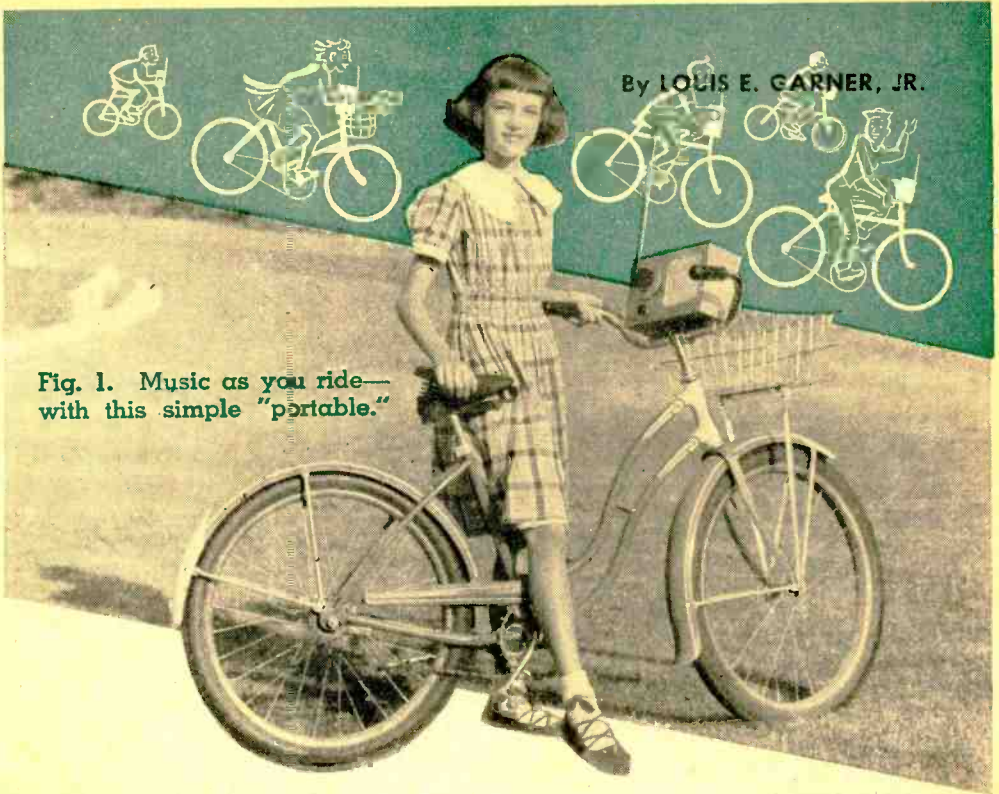

Fig. 1. Music as you ride—
**H**OW about a little music while you ride? Or would you rather listen to the football games as you pedal your way through the early October Saturday afternoons? You can enjoy both of these experiences if your bike is radio equipped like the one shown in Fig. 1. Or have you often thought it would be nice to have a good-looking portable receiver for those camping trips, days at the beach, or just as an "extra" set around the house? Such a portable radio is easy to build and will only take a few spare evenings to put together. Here is how it is done!